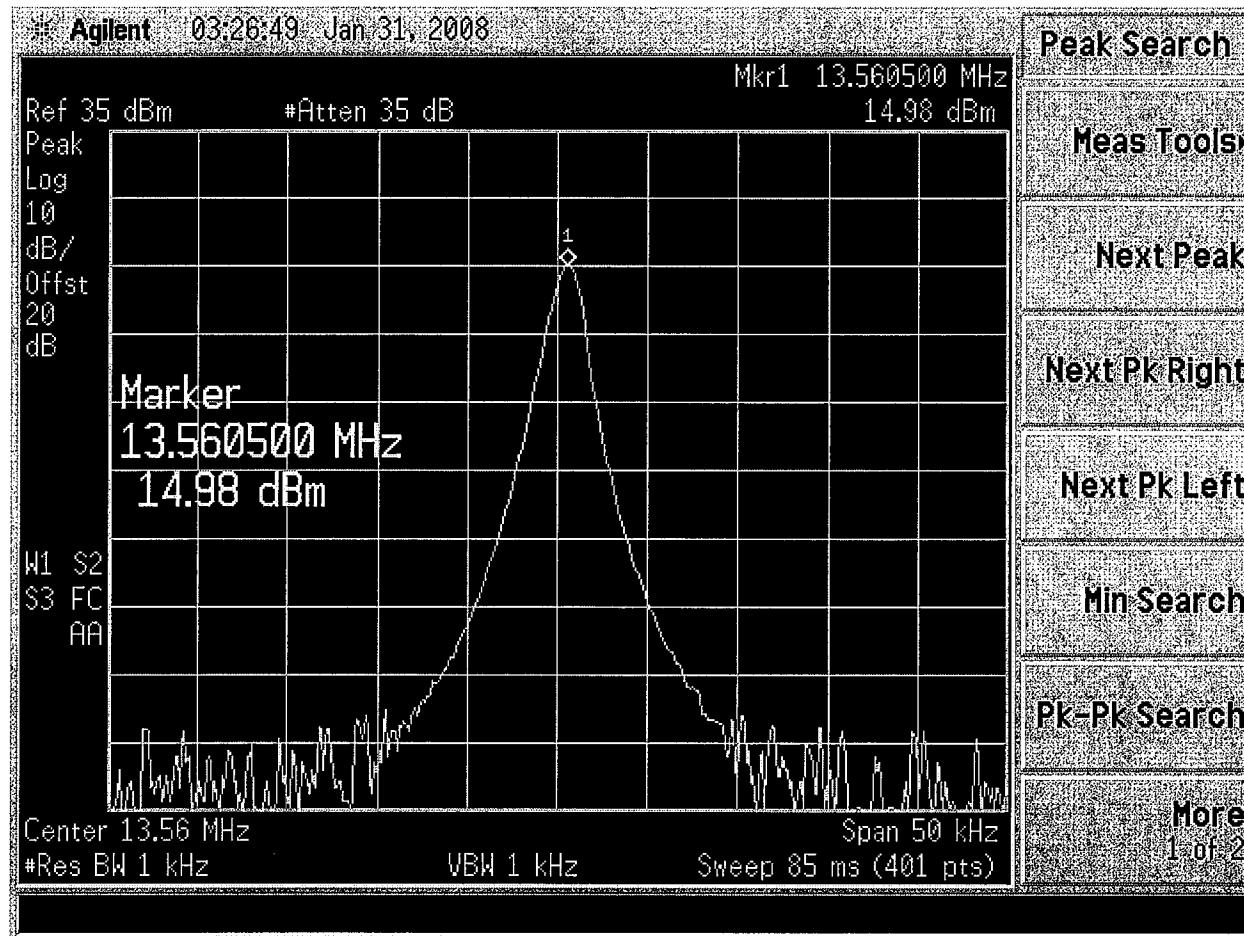

Figure 7
9.4.6 Verify that there is a signal present on the spectrum analyzer similar to the one shown in Figure 7. **Amplitude should be within a +/- 2 dB at this point.**